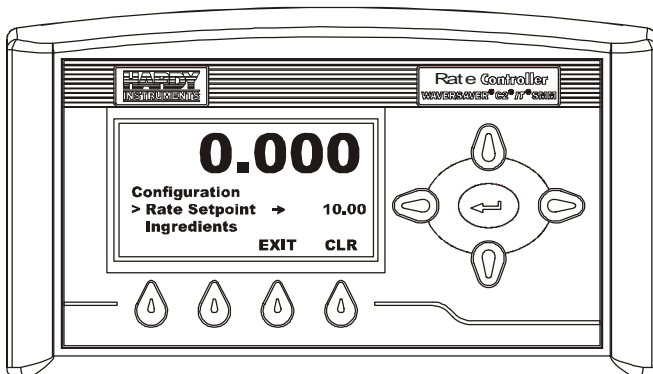

FIG. 8 CONFIGURATION DISPLAY
- Step 3. Press the Enter button to go to the Configuration menus. (See Fig. 8)